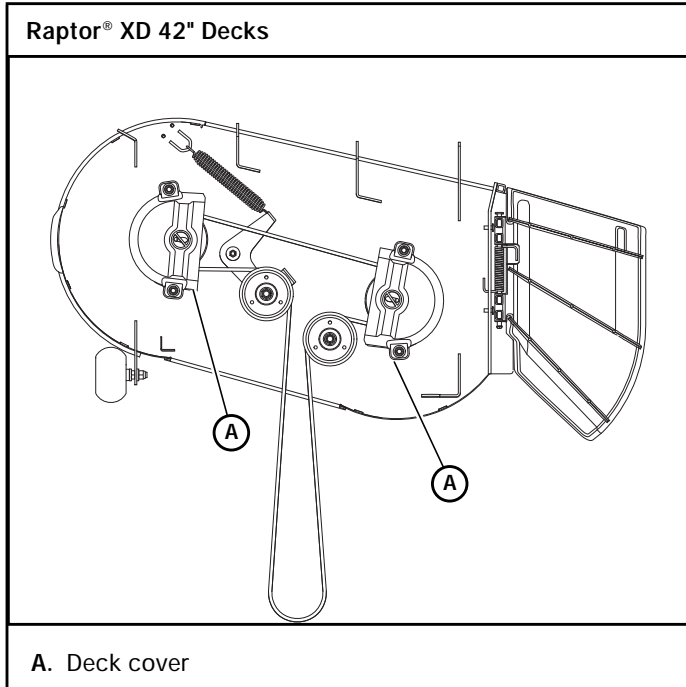
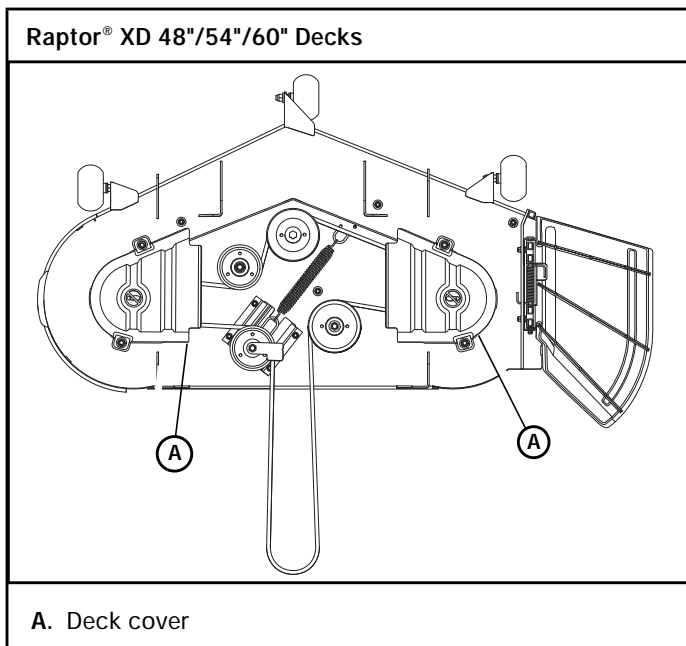
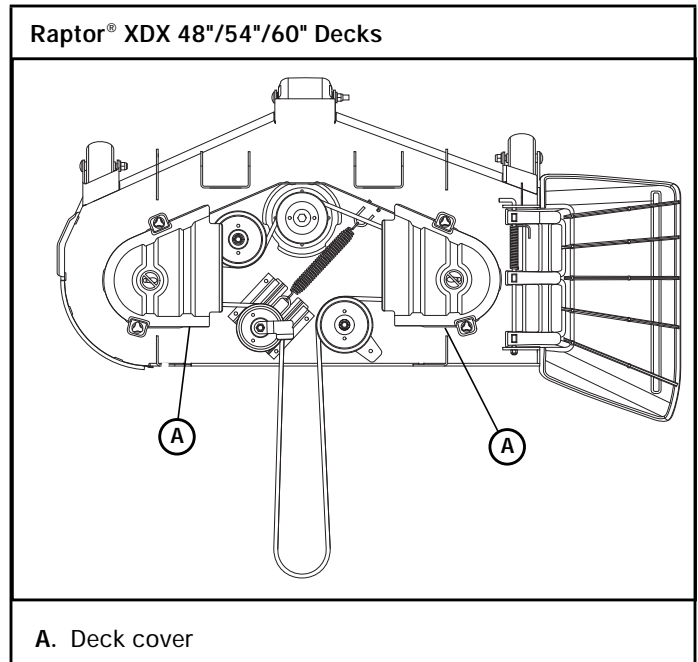

Figure 4-9
Figure 4-10
Figure 4-11
3. Remove the deck covers. Figure 4-9, Figure 4-10 & Figure 4-11
14. Re-install the deck covers. Figure 4-9, Figure 4-10, & Figure 4-11